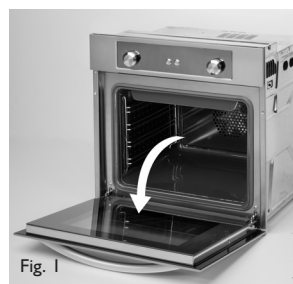

Fig. 1
1. Open the door fully (see fig. 1).